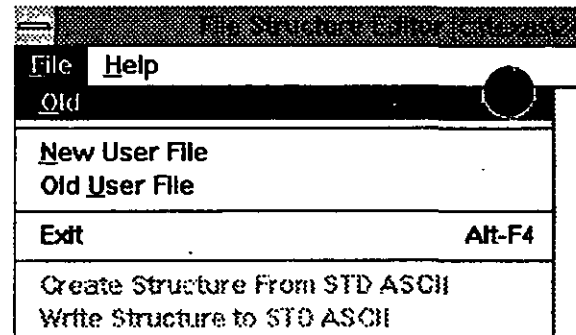

Figure 18-2
3. Click on **File**. Notice on the menu which is as shown in Figure 18-2 two additional entries: **New User File** and **Old User File**.